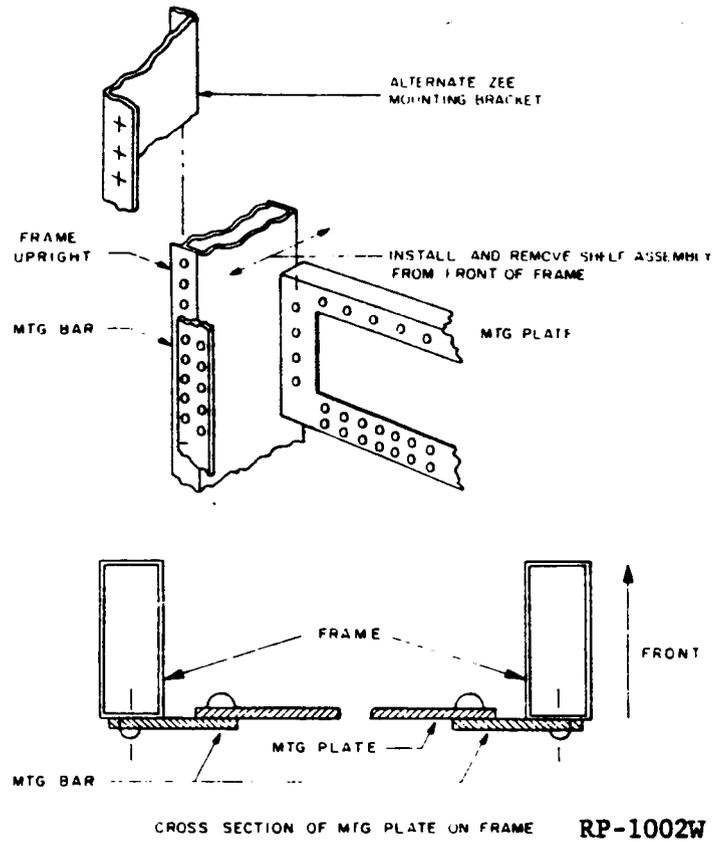

FIG. 6 FRONT-REMOVABLE MOUNTING PLATE (PAR. 2.2.2.1)
2.2.2.1 Mounting Plates - The mounting plate mechanically supports the shelf assembly components (apparatus housings, backplane etc.) and unites the complete assembly to the framework (see Figure 6). Mounting plates are made in heights of 4, 6 and 8 inches. Frame mounting bars attach to the back of the frame uprights to form a mounting surface accessible from this front.